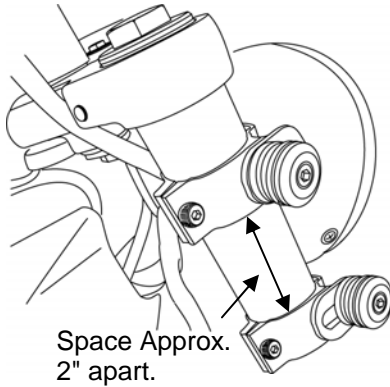

Fig. 3
5. Slip the windshield mounting plates and windshield onto the fork clamps, (fig. 3 and 5) and secure the left and right side locking mechanism